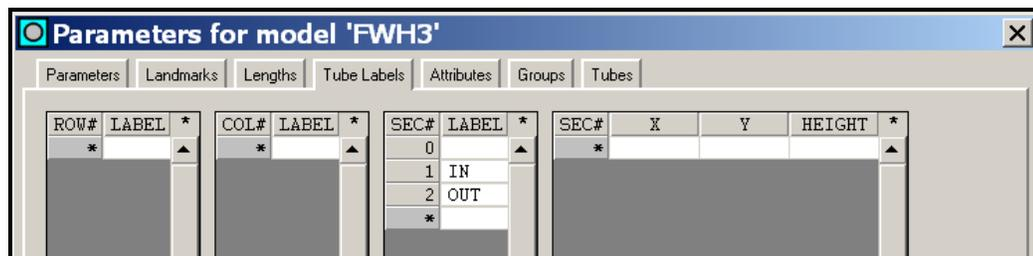

Figure 60. Parameters Dialog - Tube Labels Tab
- STEP 17:** Click in the *Sec Label* field for *Sec 2* and type *OUT*. The *Sec Label* fields on the *Tube Labels* tab should now appear as shown in Figure 60.